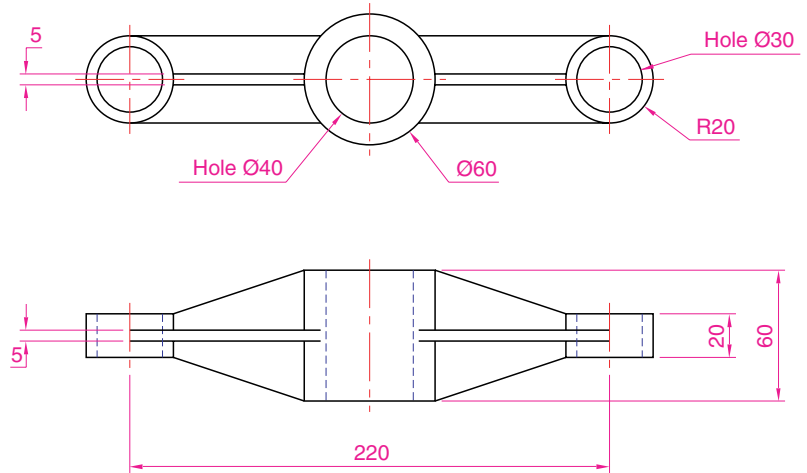

Fig. 15.22 First example – **Slice** – the two-view drawing
1. Construct a 3D model of the rod link device shown in the two-view projection (Fig. 15.22).